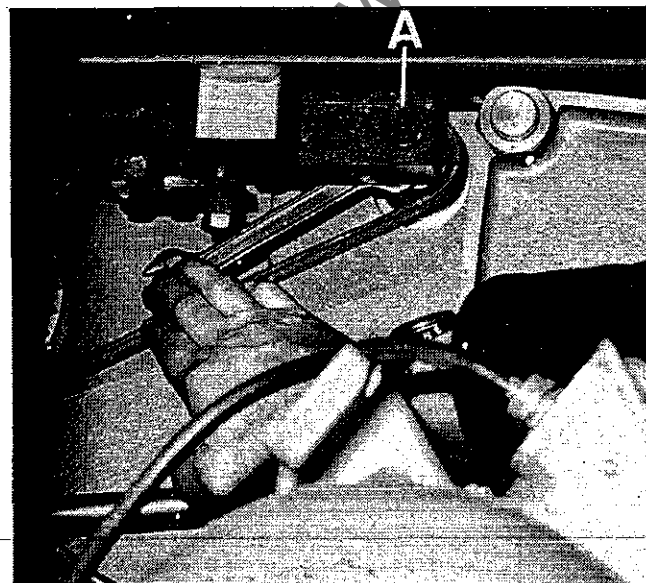

FIG. 41.
10. Replace belt then loosen M12 nut "A", FIG.41, and turn eccentric spindle with 19mm spanner supplied until minimum centre distance is achieved between motor pulley and spindle pulley. Re-lock M12 nut "A".
3. Loosen M12 nut "A", FIG.41, and turn eccentric spindle with 19mm spanner supplied until belt is correctly tensioned.